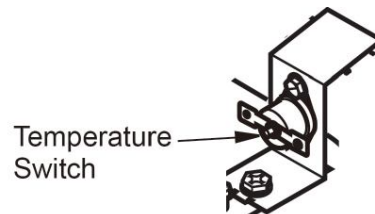

Figure 19 - Temperature Switch
**NOTICE:** Log set is equipped with a system to turn off log set if not operating on correct gas. If the temperature switch requires resetting, press button (see Figure 19). Do not reset until unit has been checked by a qualified service installer.